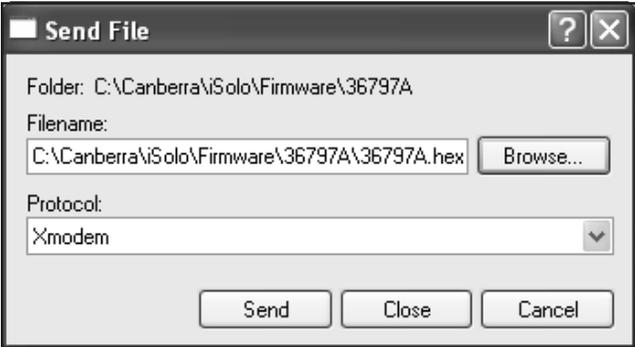

Figure 10 Selecting the File to Transfer
- 7. Select the file to be sent and Xmodem Protocol as shown in Figure 10.